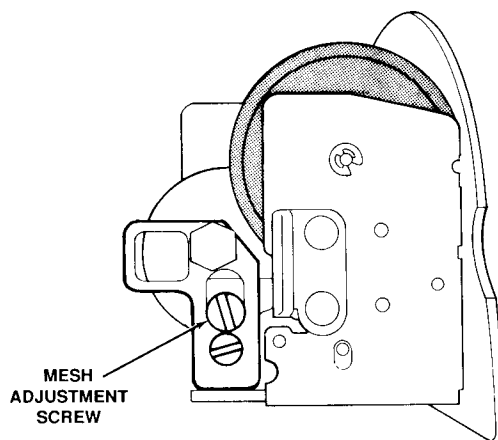

Figure 4
drive gear bearing plate clockwise (for increased mesh), or counterclockwise (for decreased mesh). See Fig. 4.
8. If mesh requires adjustment, using a standard screwdriver simply turn the adjustment on the register drive gear bearing plate clockwise (for increased mesh), or counterclockwise (for decreased mesh). See Fig. 4.